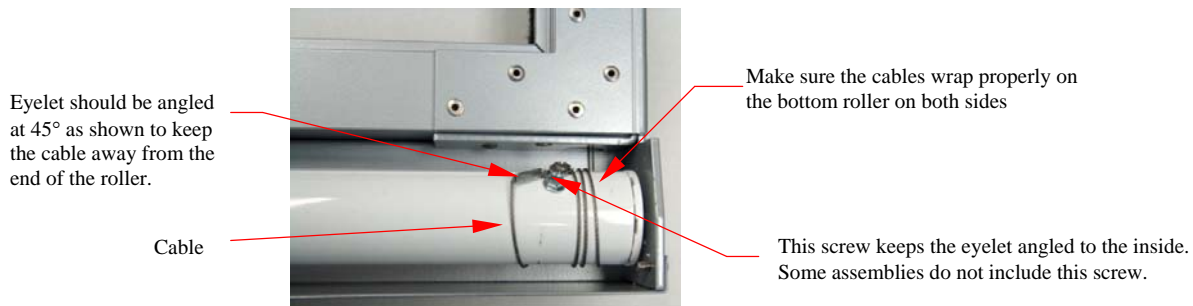

FIG. 1
- Cables are intact and are wrapping smoothly around bottom roller (FIG. 1),